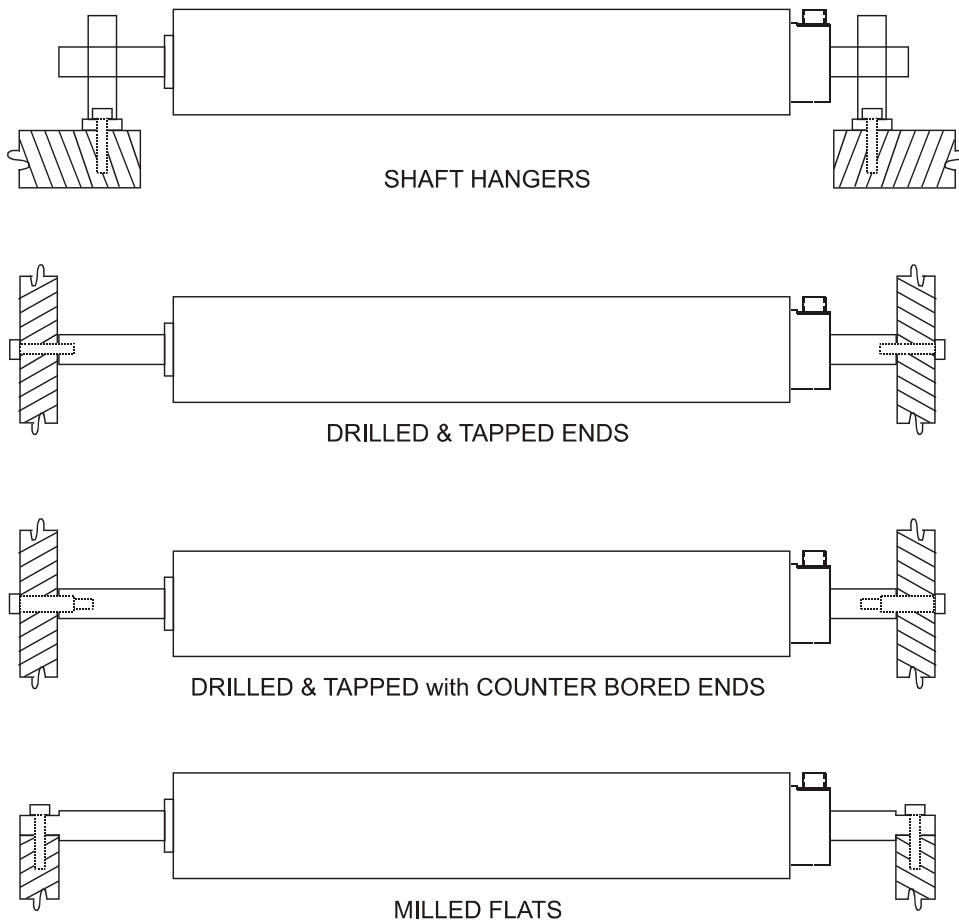

Figure 5 - MOUNTING STYLES
In a typical installation, the transducer is mounted in the same way as any dead-shaft idler roll. No special provisions need to be made. The transducer shaft is available with plain ends for mounting in shaft hangers, drilled and tapped ends for mounting by thru-frame bolts, or milled flats with a bolt hole thru for mounting on the edge of machine frames. See Figure 5.
1. LOAD RATINGS. The Model "TR" Transducer is available in several standard load ratings, ranging from 12 lbs. to 400 lbs. The correct rating for any particular application depends on web tension, transducer roll weight, wrap angle and the direction of the tension force on the transducer roll. Figure 5 contains mathematical formulas which use these factors to determine the correct load rating.